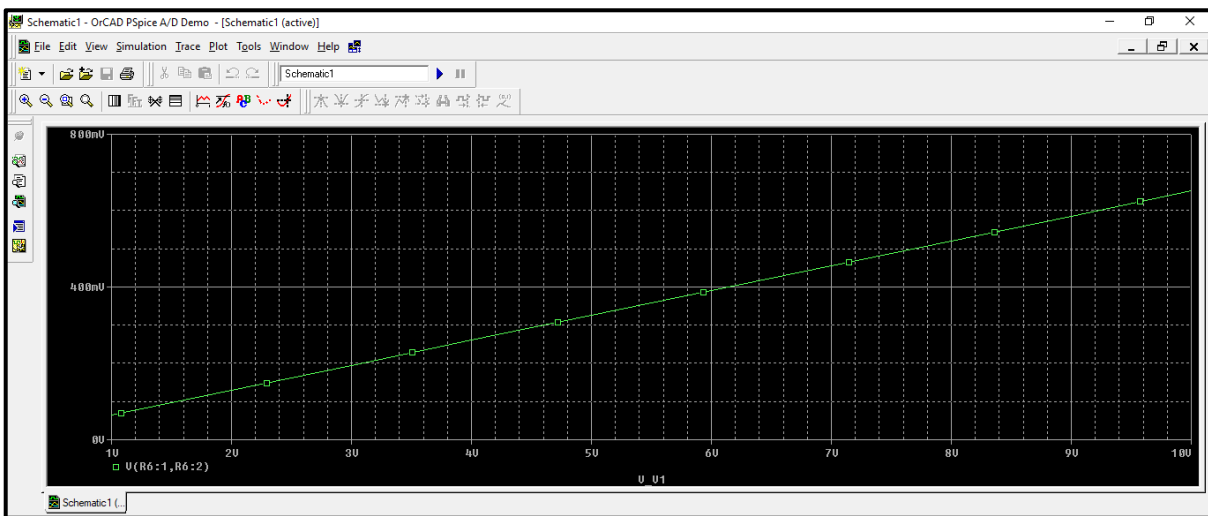

Figure.21
- The output now will be as shown in figure.21. Note the difference on y-axis range!